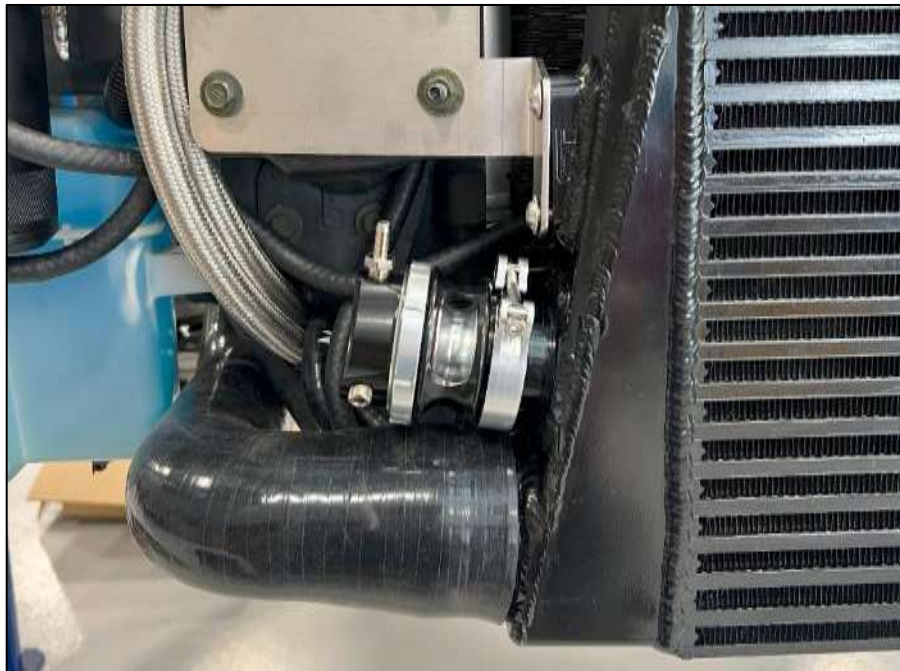

Figure 79
1. Locate the Z1 Bash Bar (#44), Z1 Intercooler (#1), (2) two Intercooler Brackets (#55), Turbosmart RacePort (#43), and (4) four M8 x 16mm Flanged Button Head Screws (#16).
2. With thread sealant, install the barb fitting into the right port of the RacePort with a 1/2" wrench and install the plug into the left with a 5/16" hex key. Install the Turbosmart RacePort onto the Left side of the Z1 Intercooler. Have the Recirculation Port **FACE** the engine on 350Z. Have the Recirculation Port **FACE AWAY** from the engine on G35 models. *Figure 79.*
NOTE: The Intercooler in *Figure 79* below is a sampled production piece and is a different color than Production Intercoolers. The blowoff valve is clocked to fit a 350Z Recirculation Pipe.